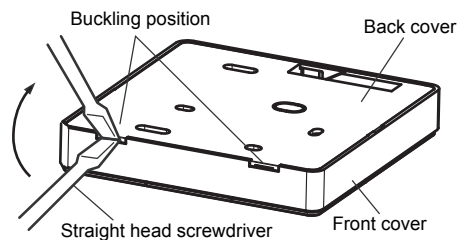

Fig.5
1. Use straight head screwdriver to insert into the buckling position in the bottom of wire controller, and spin the screwdriver to take down the back cover. (Pay attention to spinning direction, otherwise will damage the back cover!) (Fig.5)